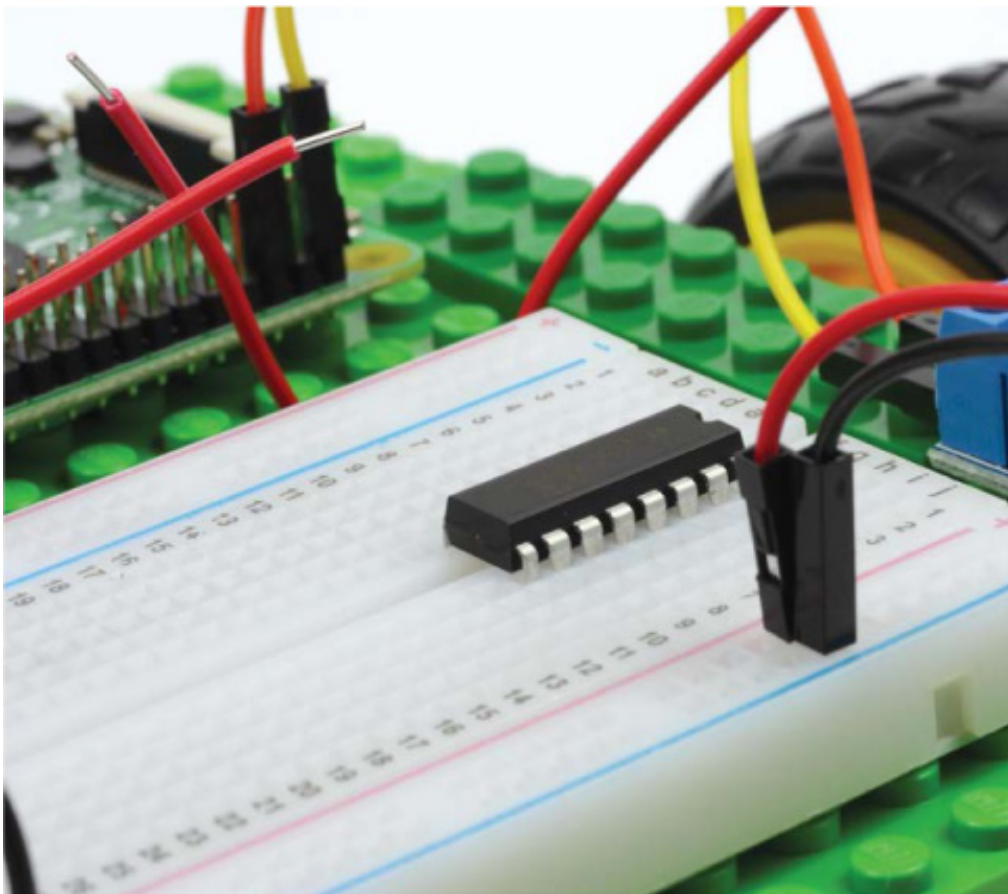

FIGURE 3-22 The L293D inserted into my breadboard
1. Insert your L293D firmly into your breadboard, ensuring that all of the legs are in separate rows and are not connected to other components. To do this, position the chip so it straddles the gap running down the middle of your breadboard, as shown in Figure 3-22. The legs of ICs like the L293D often are not quite straight, so you may struggle to fit it into your board. If this is the case, take your L293D and press each side lightly against a flat surface to bend the legs into right angles.